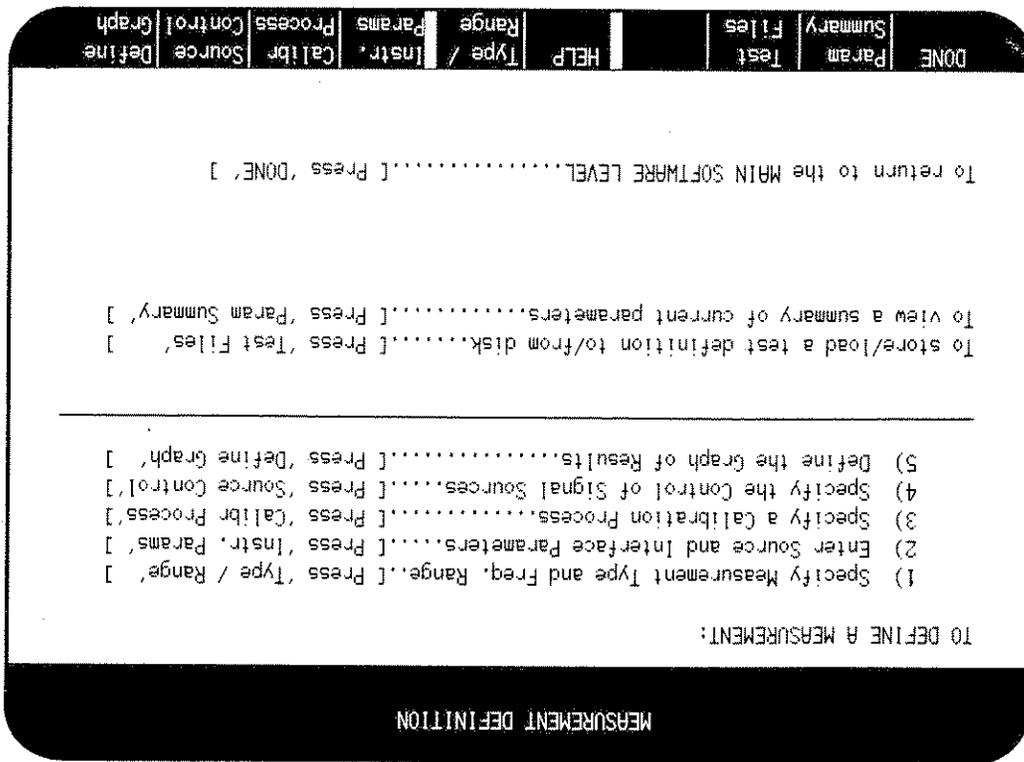

Figure 3-7. Measurement Definition Menu
5. On the HP 3048A press the **Define Msrment** softkey to obtain the Measurement Definition menu. Refer to figure 3-7.